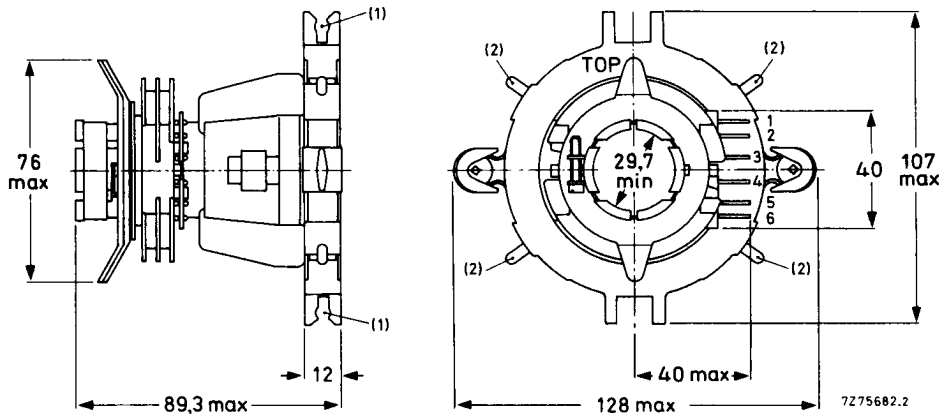
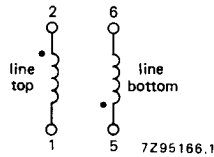

Fig. 1 Deflection unit AT1071/07; Facilities for fitting correction magnets:
Fig. 2a Line coils.
The unit is provided with solder pins for connection. The pin numbering in Fig. 1 corresponds to that in the connection diagram (Figs 2a and 2b).
**Line deflection coils (Fig. 2a);**